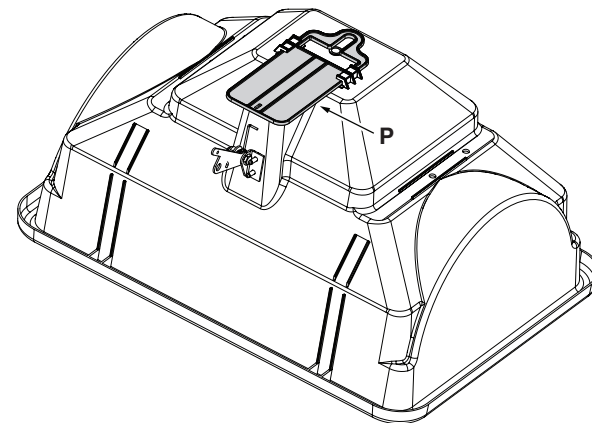

Figure 2
STEP 2: (SEE FIGURE 2)
- Position the flow plate (P) and slide gate bracket as shown below.